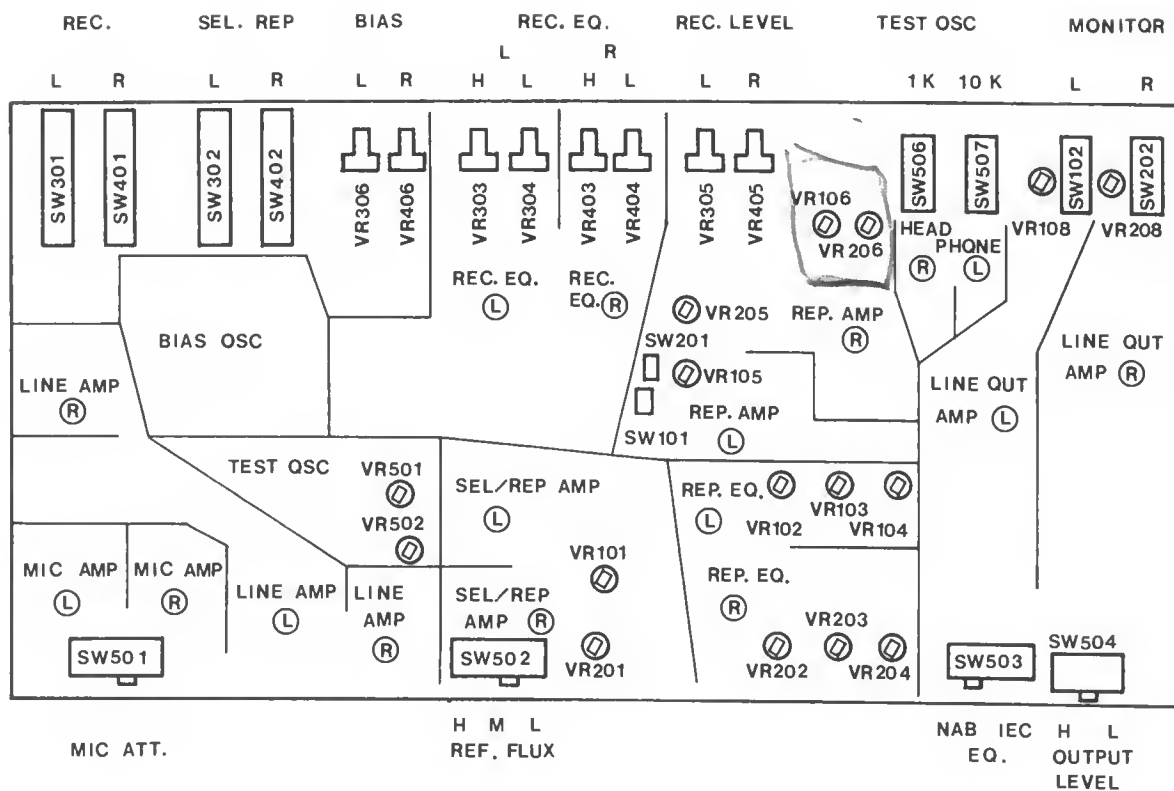

Fig. 5-3 Pattern Layout (bottom view)
- (3) Referring to Fig. 5-3, the location of all the pots and switches are illustrated and are explained in the list following. This list would give you the convenience in adjusting the amplifier.
Figure 5-3 is the major parts layout on the amplifier P.C.B. assembly with the parts list following on next page. They may give you the necessary location information of the parts to adjust the amplifier.